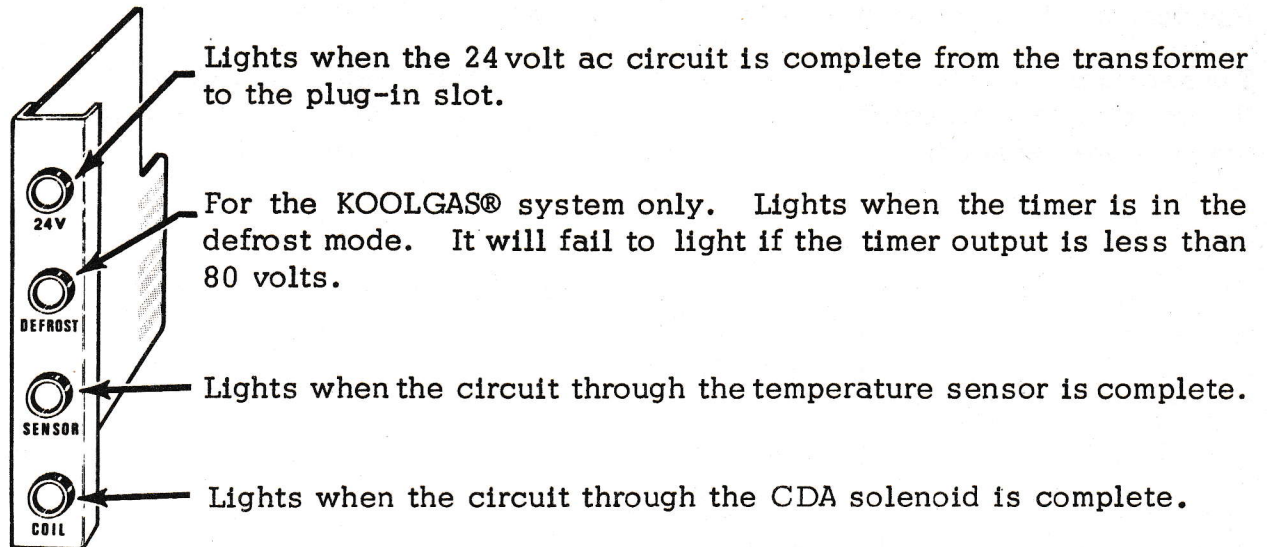

Figure X-8
Diagnostic board. The diagnostic board plugs into the panelboard slot and is used to check operation during start up and service. There are four lights which check: (1) 24 volt ac supply; (2) defrost clock wiring and operation; (3) CDA solenoid wiring for open or short; (4) temperature sensor wiring for open or short. Figure X-8 shows a front view of the diagnostic board. See diagnostic chart (Table X-2) for possible causes and remedies for malfunctions.